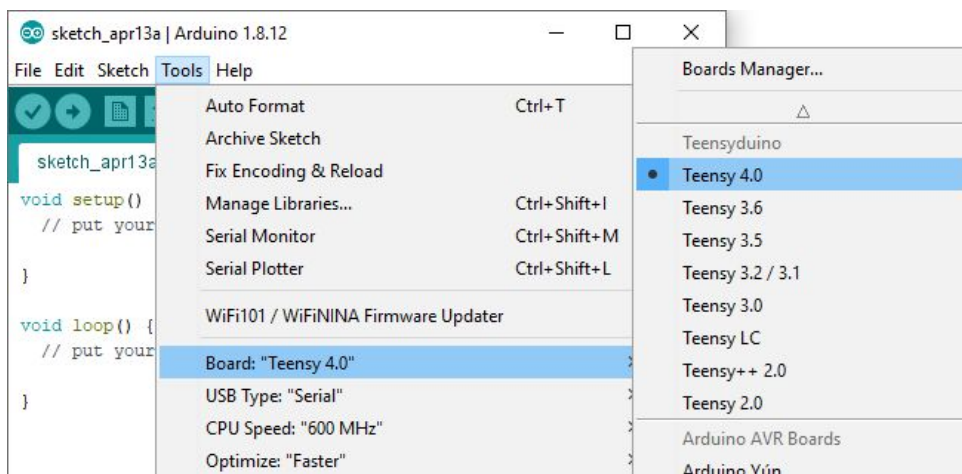

Fig. 7. Selecting the Teensy 4.0.
3. Highlight “Board” with your cursor and make sure “Teensy 4.0” is selected which is indicated by the large dot (Fig. 7):